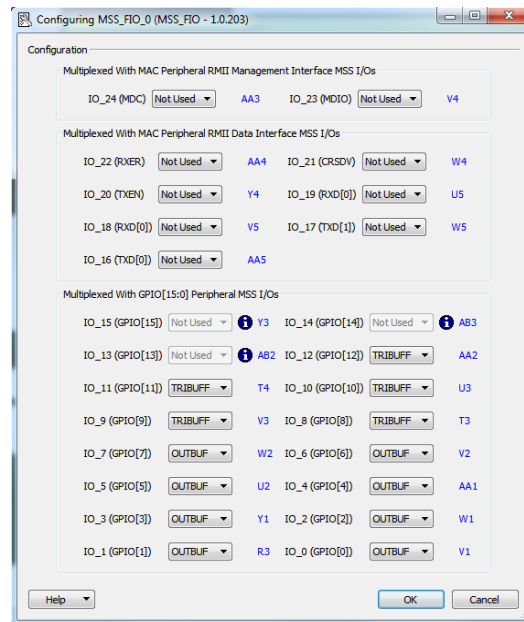

Figure 22 • Configure MSS I/O Block
2. Double click MSS I/O block to configure, it is similar to Figure 22.